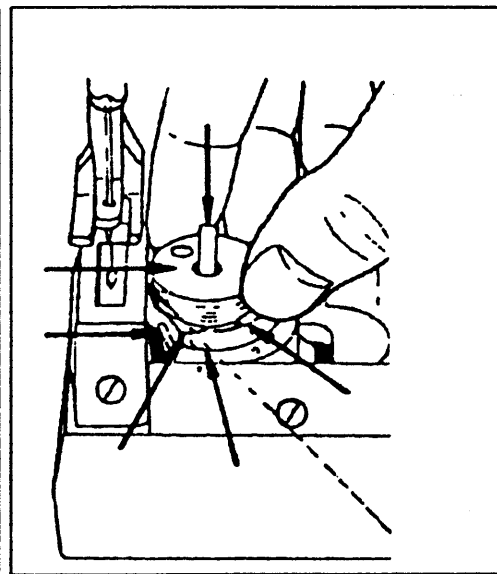

Fig.5
10. Removing and inserting the bobbin (Fig.5):